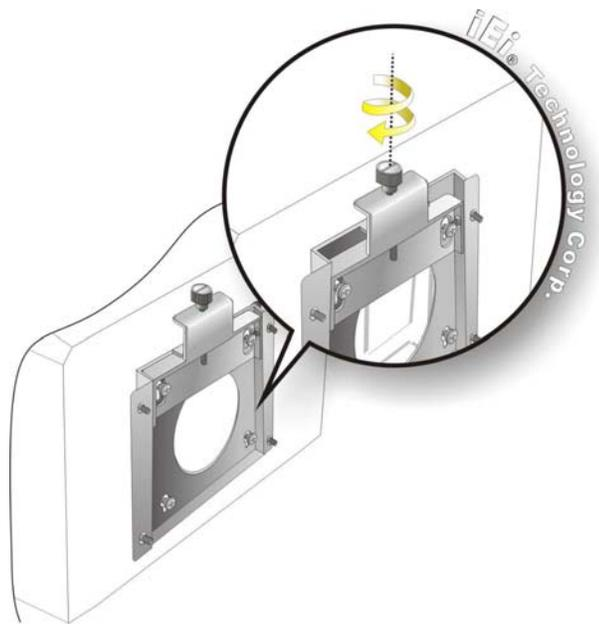

Figure 4-8: Secure the Embedded System
Step 7: Secure the embedded system by fastening the retention screw of the wall-mounting bracket. (Figure 4-8).